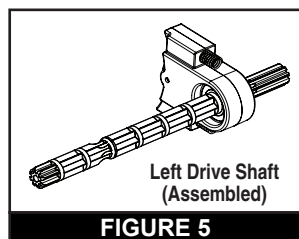

FIGURE 5
LEFT DRIVE KIT (FIGURE 5 AND 6)
4. Unpackage the new Left Drive Shaft and Reversing Drive. Assemble as shown in **Figure 5**.